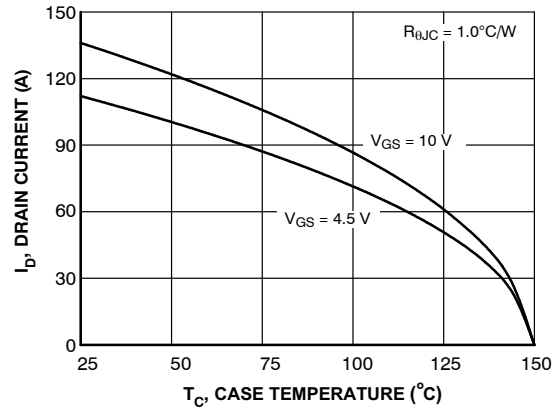

Figure 10. Maximum Continuous Drain Current vs. Case Temperature
Figure 10 is a graph showing Drain Current (I_D) versus Drain to Source Voltage (V_{DS}) for various Gate to Source Voltages (V_{GS}). The Y-axis represents I_D (A) from 0 to 250. The X-axis represents V_{DS} (V) from 0 to 5. The graph includes curves for $V_{GS} = 10\text{ V}$, 8 V , 6 V , 4.5 V , and 3 V . The curves show that I_D increases rapidly with V_{DS} at low values and then levels off. The graph also specifies PULSE DURATION = 80 μs and DUTY CYCLE = 0.5% MAX.